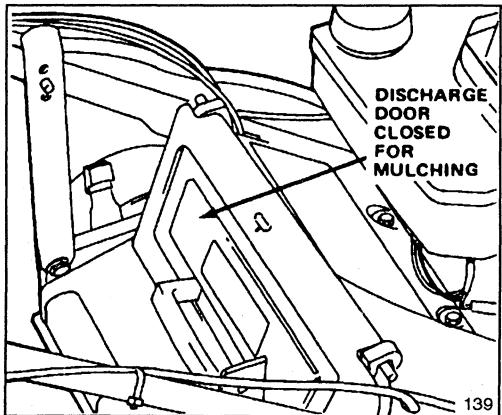

Figure 5
4. **MULCHING**—In summer when grass grows slower and is drier, mulch by removing the grass bag and closing the discharge door (Fig. 5).